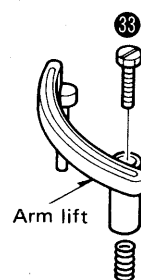

Fig. 10
2. Remove the tonearm lift setscrew (Fig. 10 : 33).